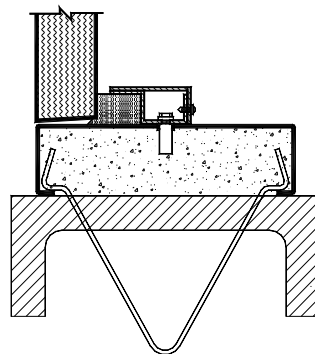

FIGURE 3
**D. Installation In New Masonry Partitions (Fig 3).** Instructions for this type wall are not significantly different from those above other than the actual anchorage to the wall and grout fill which takes place as the wall is erected. Special precautions should be taken to prevent the head and jambs from bowing during grout fill.